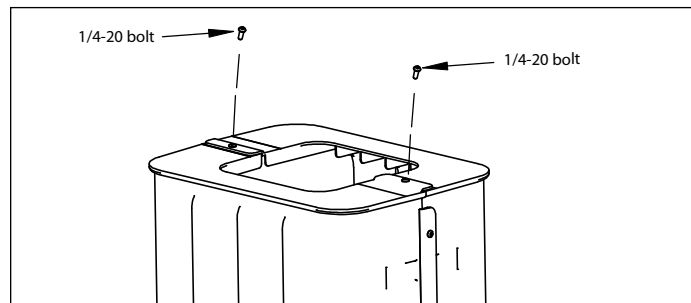

Figure 25
- 6) Place bolt through each of the two holes on top of the joined hopper extension. Secure with flat washer and flange nut. **SEE FIGURE 25.**